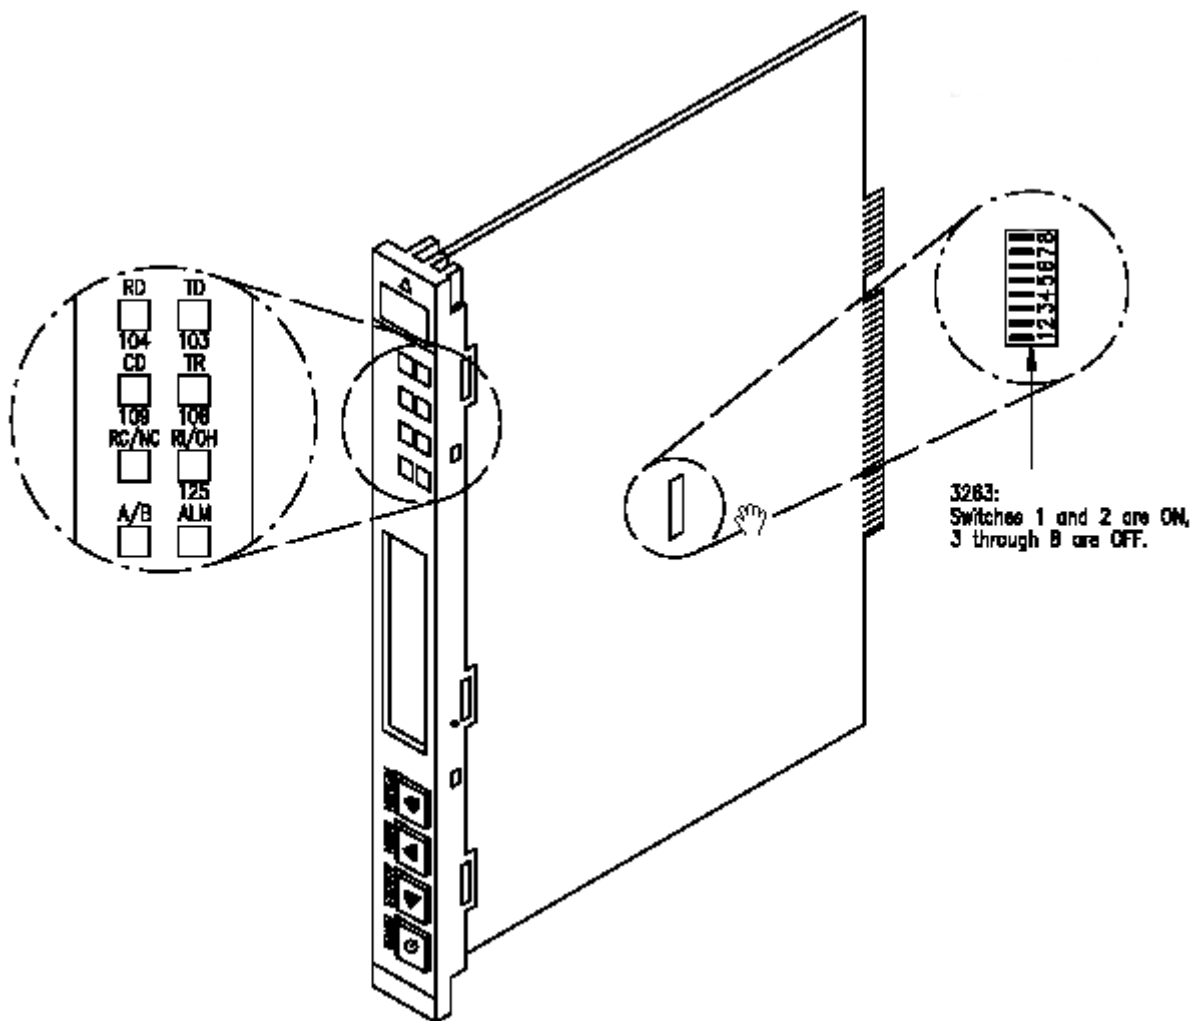

Figure 2. Dedicated Port (Rack-Mounted) Modem, Front Panel and DIP Switch Location
10. See Figure 2 Check/set the DIP switches at the replacement modem as follows: